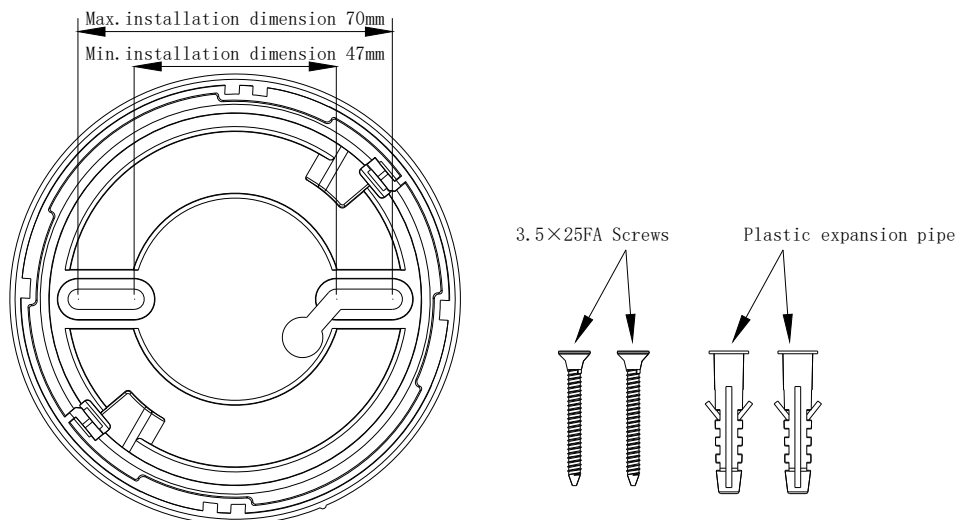
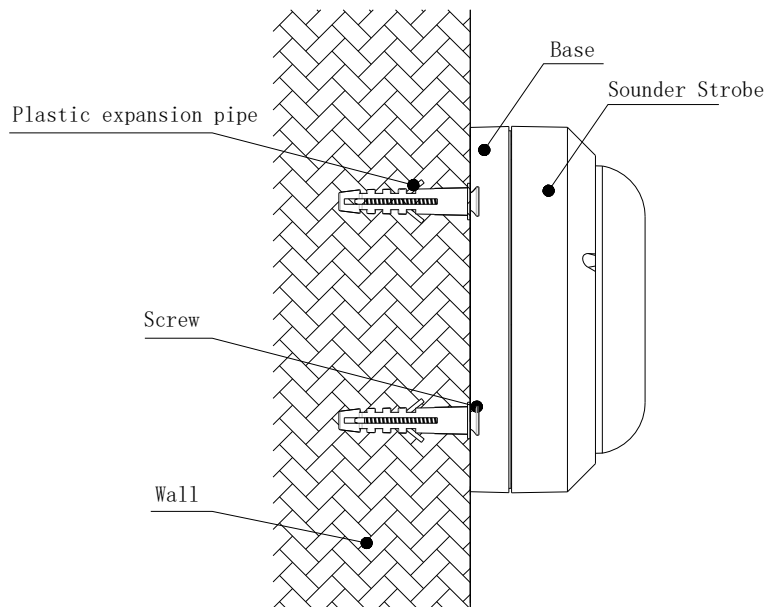

Fig. 2: Sounder strobe base and fixed accessories
Fig. 3 Sounder strobe installation diagram
4.2 Alarm base dimension diagram, as shown in Fig. 2 (unit: mm)
1. Appropriate installation position: a handheld device is used to detect networking signal (wireless signal transmission between sounder strobe and control panel may be affected by the environment, such as wall blockage and absorption and interference from other wireless signal etc. Signal intensity will reduce substantially). The sounder strobe is installed where network signal is the best. Installation diagram of the alarm is as shown in Fig. 3. The sounder strobe base is installed on the wall with plastic expansion pipe and 3.5×25FA screws. Installation hole spacing is as shown in Fig. 2.